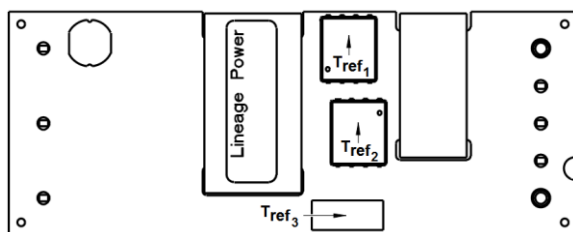

Figure 13. T_{ref} Temperature Measurement Location for Open Frame Module.
To provide protection under overtemperature fault conditions, the unit is equipped with a thermal shutdown circuit. The unit will shutdown if the thermal reference points T_{ref} (Figure 13), exceed 138°C (typical). However, the thermal shutdown is not intended as a guarantee that the unit will survive temperatures beyond its rating. The module restarts automatically after the unit cools down below the overtemperature protection thresholds.
The thermal reference points, T_{ref} , used in the specifications for open frame modules are shown in Figure 13. For reliable operation T_{ref1} and T_{ref2} temperatures should not exceed 125°C and T_{ref3} temperature should not exceed 110°C .